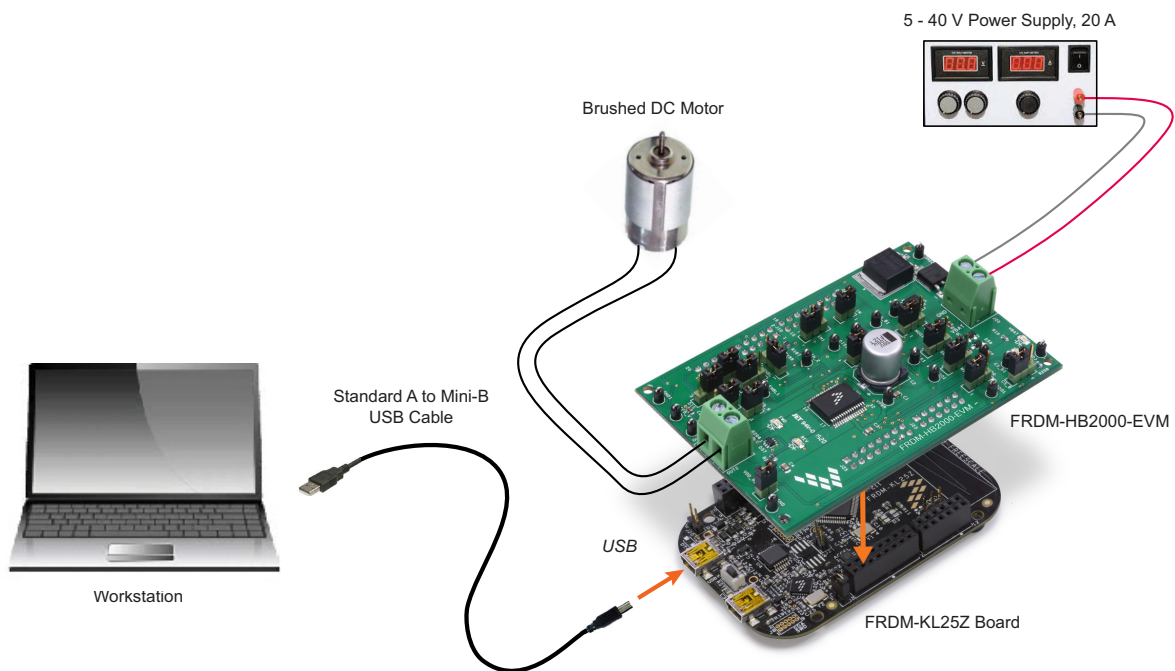

Figure 14. FRDM-HB2000-EVM configured for use with an FRDM-KL25Z board
Figure 14 illustrates the hardware configuration using a FRDM-KL25Z.
4. Launch SPIGen. The HB2000/HB2001 device should appear in the device view panel at the left (see Figure 14).